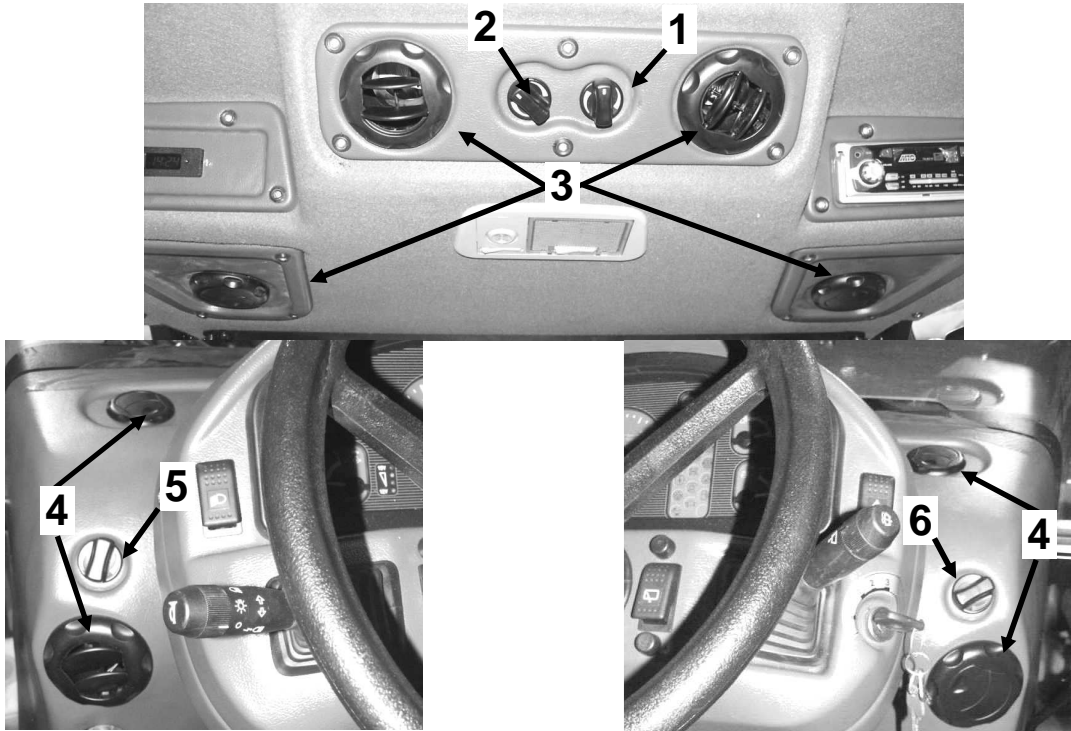

Figure 4-22 Ventilation, heating and cab air conditioning system.
Connecting blower takes place by connecting fan with knob 1 located in upper cab panel and 6 (Figure 4-22) placed to the right of the steering column.
Heater knob 5 (Figure 4-22) enables smooth temperature adjustment of hot air from heater. Turning heater knob to the right or left side lowers or increases temperature of air coming from heater to air outlet.
Blower can be switched on by connecting fan with knob 1 (**Figure 4-22**) placed on control panel 1 on the left side of cab.
Thermostat knob 2 (**Figure 4-22**) enables smooth adjustment of temperature of cooling air. Turning thermostat knob to the right or left reduces or increases temperature of air leaving evaporator.
- fan knob 1 (**Figure 4-22**) selects required degree of blower operation,
- thermostat knob 2 (**Figure 4-22**) sets required temperature,